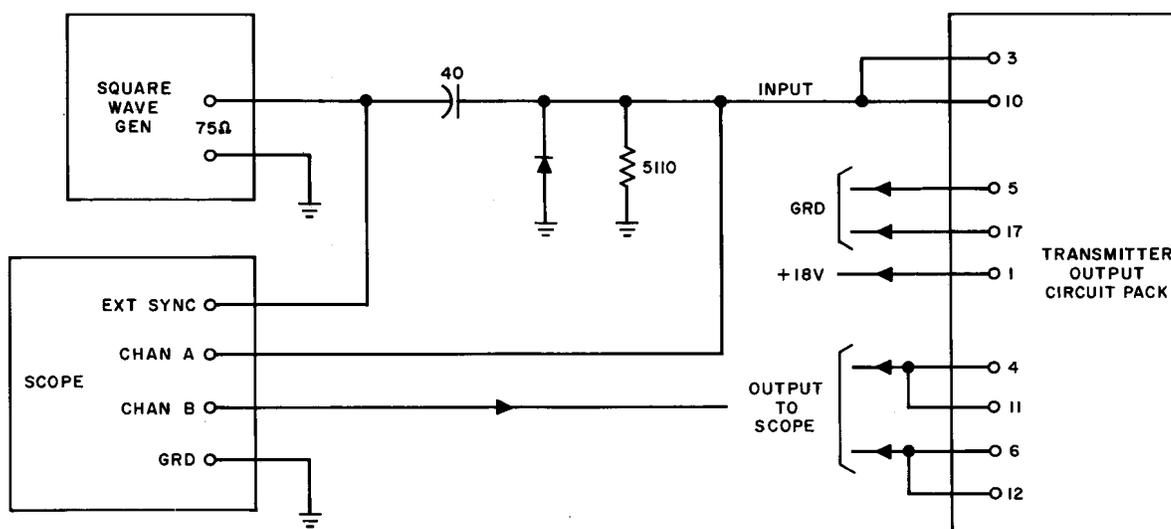

Fig. 29A — Transmitter Output Test Circuit
- (1) Connect ground to terminals 5 and 17 and +18.0 (±0.5) Vdc to terminal 1.
- (2) Connect the circuit pack to the suggested test circuit shown in Fig. 29A using the 75-ohm output of the square-wave generator. Set the symmetry control to the center position.